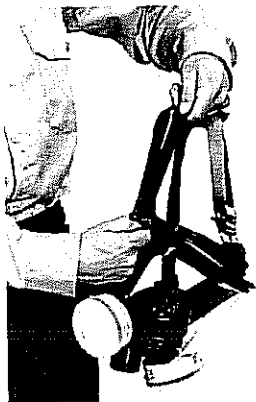

FIGURE 4
- 2) Adjust all the facepiece head straps to their full outward position. (See Figure 4.)